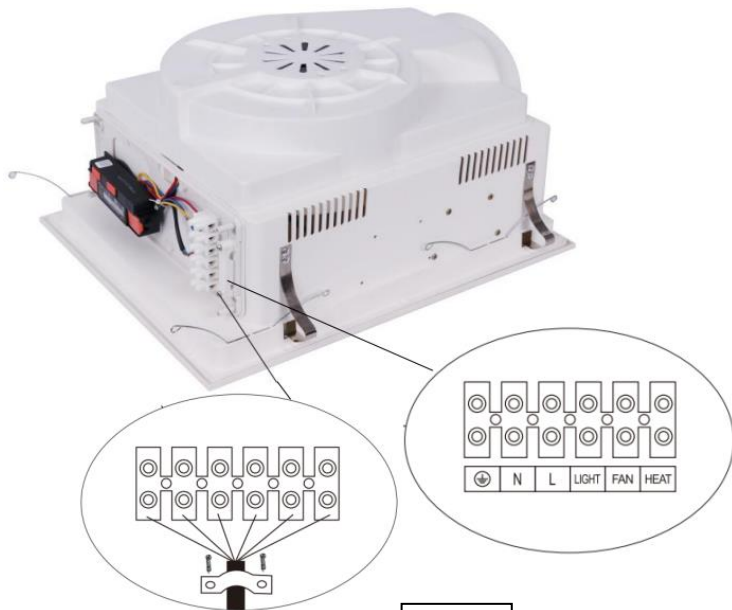

Fig. 7
10. Connect the supply wires to the terminal block shown in Fig. 7 in accordance with the wiring diagram shown in Fig. 8
11. Make the wiring connection from the terminal block shown in Fig. 7 to the supplied Wall Switch (H) using the wiring diagram shown in Fig. 8. Make sure all cables are securely connected and once confirmed, refit the terminal box cover to the THERMALITE PRO MINI unit.